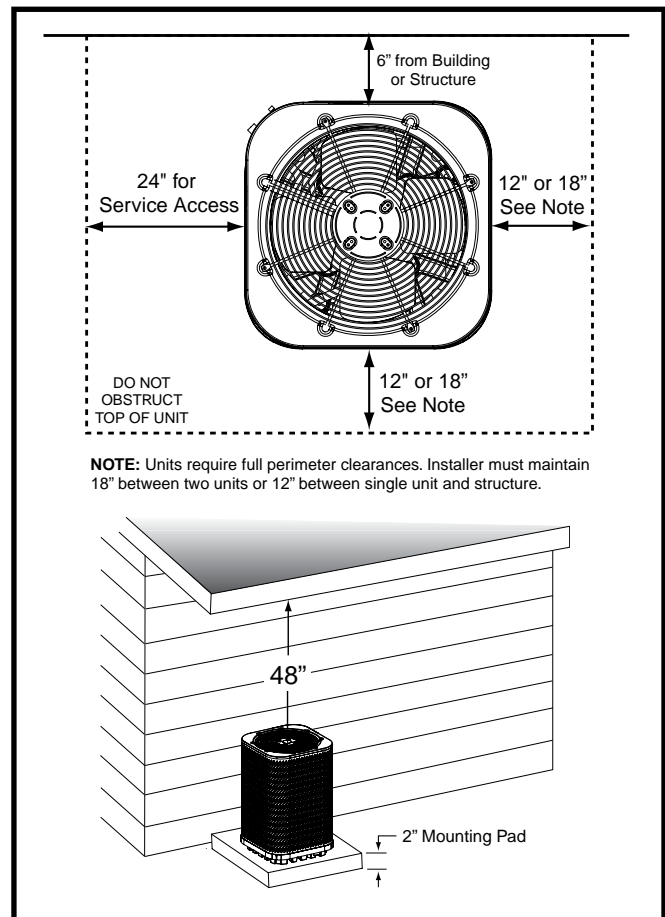

Figure 1. Clearance Requirements
- Overhead obstructions (Figure 1), poorly ventilated areas, and areas subject to accumulation of debris should be avoided.
- Sufficient clearance for unobstructed airflow through the outdoor coil must be maintained in order to achieve rated performance. See Figure 1 for minimum clearances to obstructions.
- Clearances must be in accordance with those shown in Figure 1.
- A suitable mounting pad must be provided and separate from the building foundation. The pad must be level and strong enough to support the weight of the unit. The slab height must be a minimum of 2" (5 cm) above grade and with adequate drainage. See Figure 1.